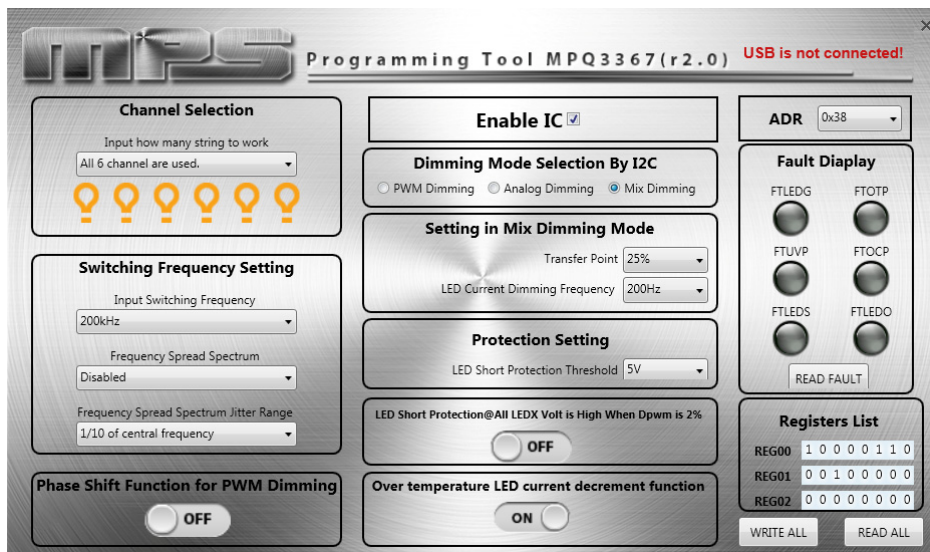

Figure 1: Unsuccessful Connection
- If the text “USB is not connected!” appears on the GUI, this means that the I²C kit cannot communicate with the computer (see Figure 1).